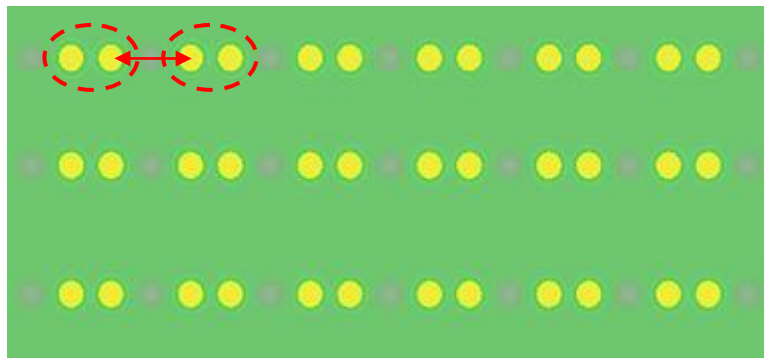
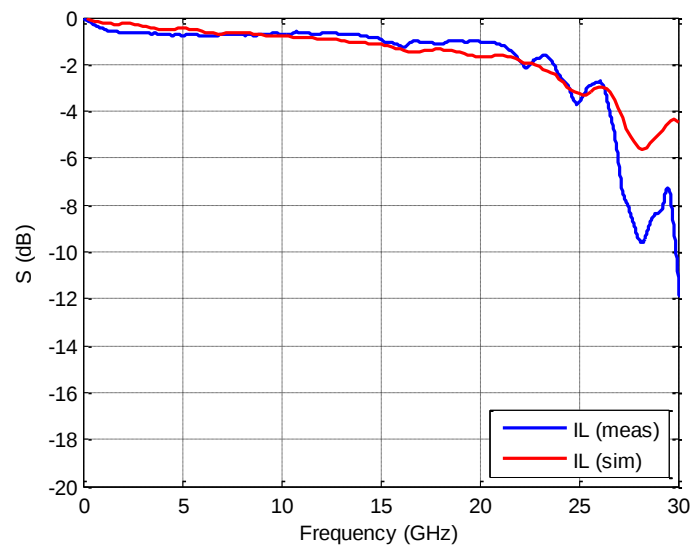

Figure 4-7 Nearest neighbors of IT8-35mm
Figure 4-8 Differential insertion loss of IT8-35mm – measurement vs. simulation
Figures 4-8 to 4-11 show the measured vs. simulated differential insertion loss (IL), return loss (RL), near-end crosstalk (NEXT), and far-end crosstalk (FEXT) between two nearest neighbors in an IT8-35mm connector (Figure 4-7).